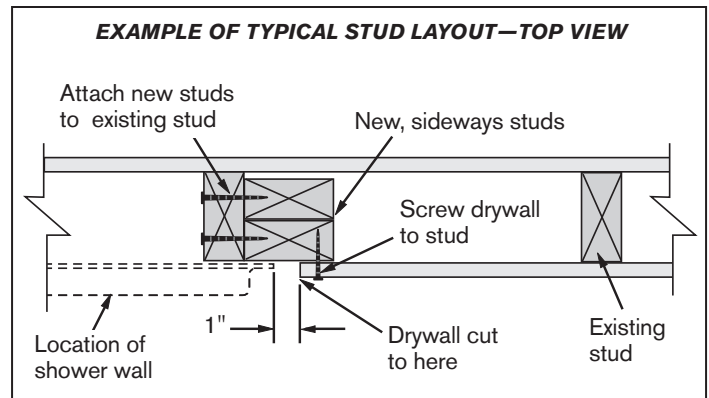

Figure 3
- 2** Install studs to provide support for flange and drywall attachment. (Figure 3)